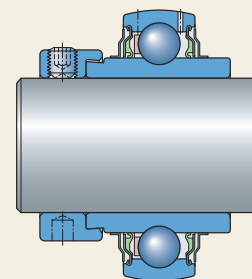

Fig. 6
- with SKF ConCentra locking technology (fig. 6)